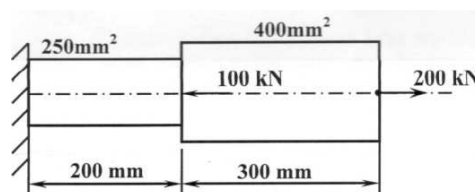

Fig. Q 6
- 6. A stepped bar member is axially loaded as shown in Fig. Q 6. Determine the nodal displacements, element stresses and support reaction use penalty method to handle boundary condition. Take $E = 200$ GPa. 20